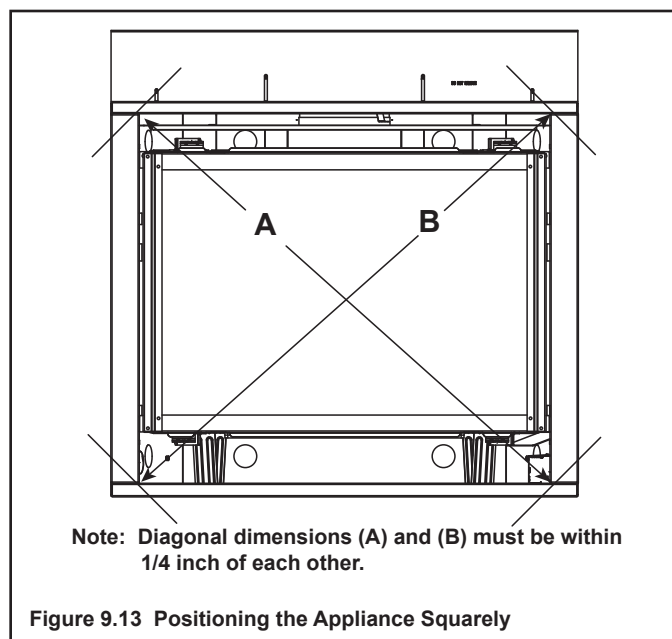

Figure 9.13 Positioning the Appliance Squarely
- “Square” the unit by securing diagonal dimensions to within 1/4 inch of each other. See Figure 9.13.